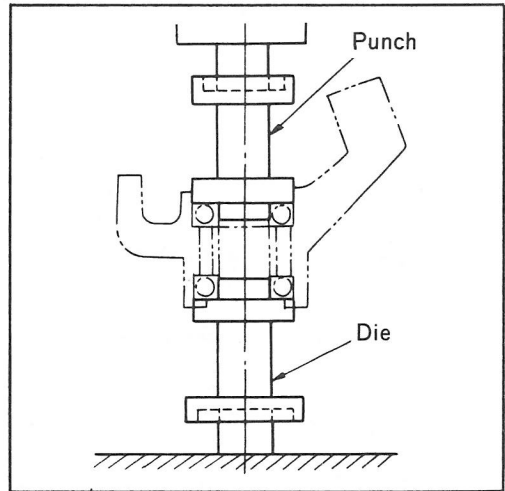

Fig. 2
4. Set the housing upside down onto the die as shown in the above figure 2 and force the bearing into the housing as the procedure described in item 2.